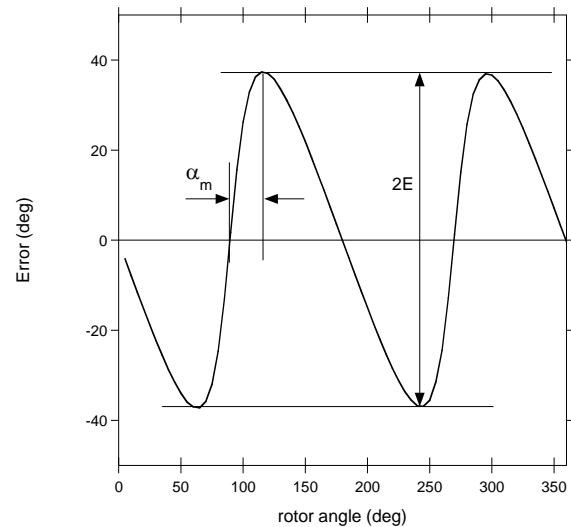

Figure 21: Error Curve in Side-Shaft Configuration with BCT = 0
The ratio k depends on the magnet geometry and the distance to the sensor. Having a k ratio different than 1 results in the sensor output response not being linear with respect to the mechanical angle. Note that the error curve has the shape of a double sinewave (see Figure 21). E is the amplitude of this error.
It is possible to deduce the k ratio from the error curve obtained with the default BCT setting (BCT = 0). For this purpose, rotate the magnet over one revolution and record the MagAlpha output. Then plot the error curve (the MagAlpha output minus the real mechanical position vs the real mechanical position) and extract two parameters: the maximum error E and the position of this maximum with respect to a zero crossing a_m (see Figure 21). k can be calculated with Equation (7):